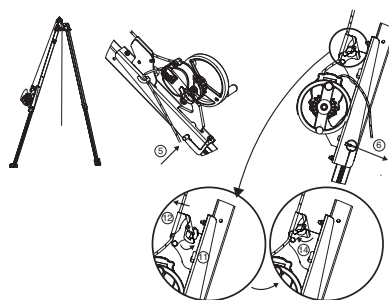

Fig. 9
IMPORTANT: Please pay attention to the assembly direction: the halyard blocker must be directed toward the top of the tracpode tripod (Fig. 9).
5. Insert the derope™ UP R console locking pin. This locking pin fulfils two functions: locking the foot of the tracpode tripod and docking the derope™ UP R console onto this leg (Fig. 9, 5).
6. Lock-off the docking pin with the split-pin (Fig. 9, 6).
11. Open the halyard clamp in the console (Fig. 9, 11).
12. Insert the halyard coming out of the derope™ device into the halyard clamp on the console (Fig. 9, 12).
14. Close the halyard clamp in the console (Fig. 9, 14).